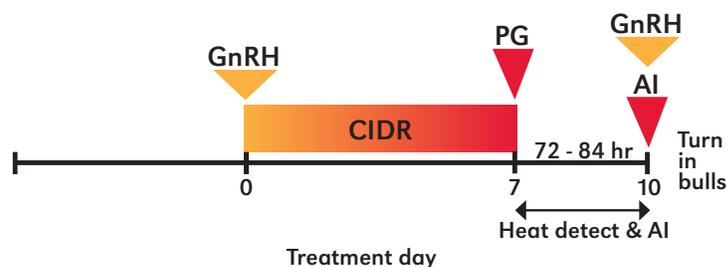

Figure 5. Select Synch + CIDR HD & TAI.
**Select Synch + CIDR HD and TAI** (Figure 5). This is a fairly complex protocol that requires three separate injections as well as CIDR insertion. On day 0, all heifers are injected with GnRH and also receive a CIDR. On day 7, the CIDR is removed, and all heifers are injected with prostaglandin. From day 7 through day 10, heifers are observed for estrus and inseminated 12 hours after estrus is detected. On day 10 of the protocol, or between 72 and 84 hours (3 to 3.5 days) following the prostaglandin injection, heifers that have not yet been inseminated are given another GnRH injection and mass-inseminated.